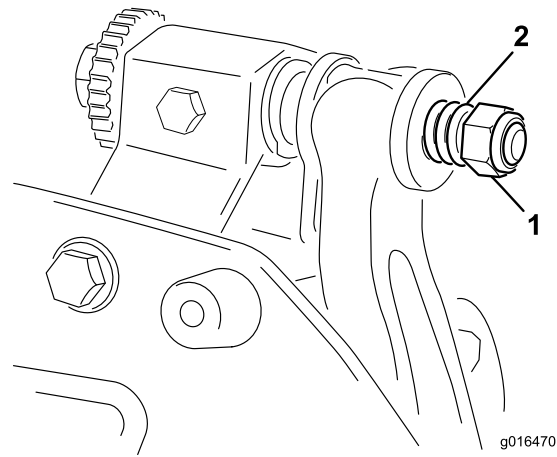

Figure 26
6. Tighten the spring tension nut until the spring is collapsed, then back it off 1/2 turn (Figure 26).